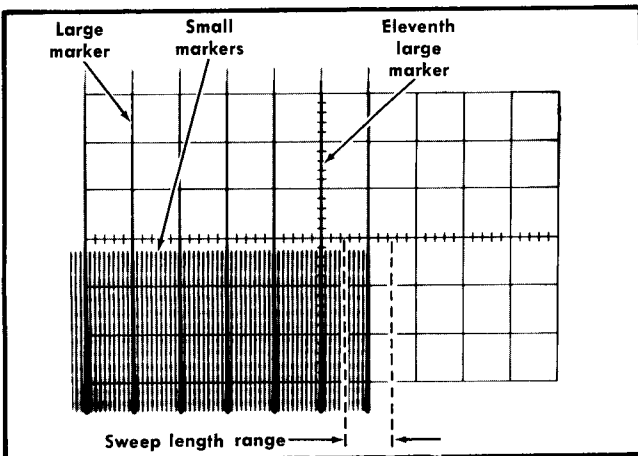

Fig. 5-24. Typical CRT display when checking A and B sweep length.
- c. Move the eleventh marker to the center vertical line with the horizontal POSITION control (see Fig. 5-24). Large markers indicate divisions and small markers indicate 0.1 division.
- d. CHECK—A Sweep length must be between 10.5 and 11.5 divisions as shown by 0.5 to 1.5 divisions of display to the right of the center vertical line (see Fig. 5-24).
- d. Move the eleventh large marker to the center vertical line with the horizontal POSITION control (see Fig. 5-24).
- e. CHECK—B Sweep length must be between 10.5 and 11.5 divisions as shown by 0.5 to 1.5 divisions of display to the right of the center vertical line (see Fig. 5-24).